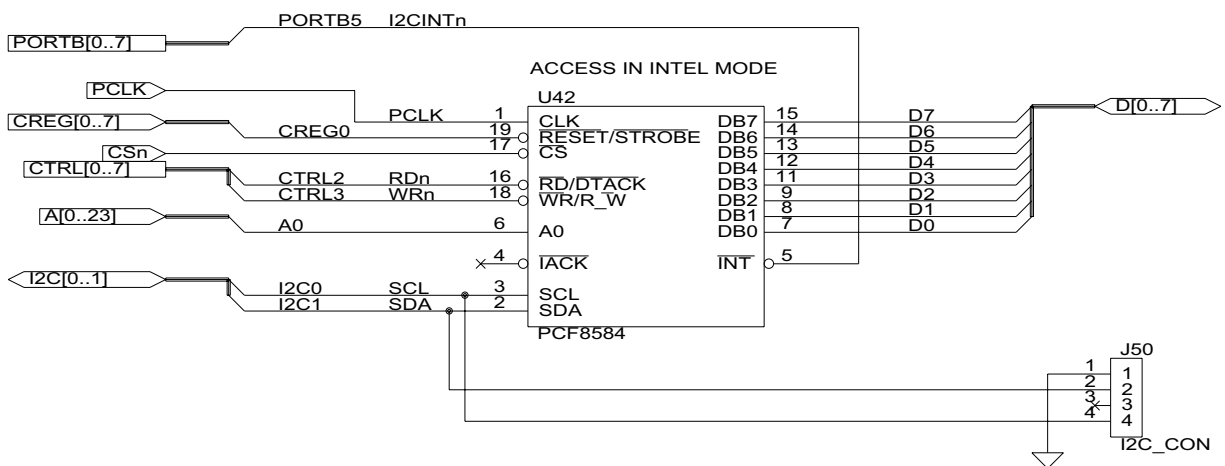

Figure 2. I2C Schematic Diagram
**CLK.** The PCF8584 Pin 1 signal requires a clock source to be running for proper operation and for the reset to work properly (see section 6.10 of the PCF8584 product specification). The clock source in this example is called out on port PCLK (see the schematic diagram in Figure 2). The PCLK signal port is a 4-pin clock oscillator (DigiKey PN XC259-ND).
For details about the PCF8584 connection to the eZ80F91, see the schematic diagram in Figure 2.